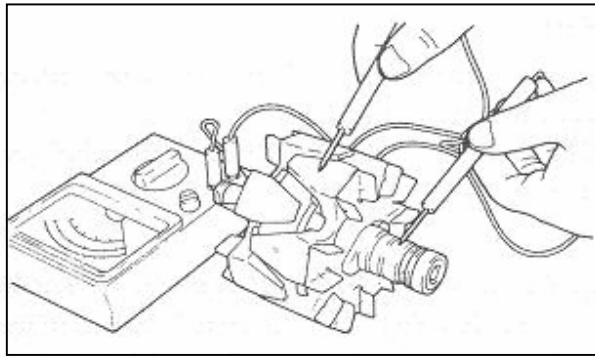

Fig. 9-41
- ② Check that there is no continuity between slip ring and core. If there is continuity , replace rotor assembly (see Fig.9-41) .